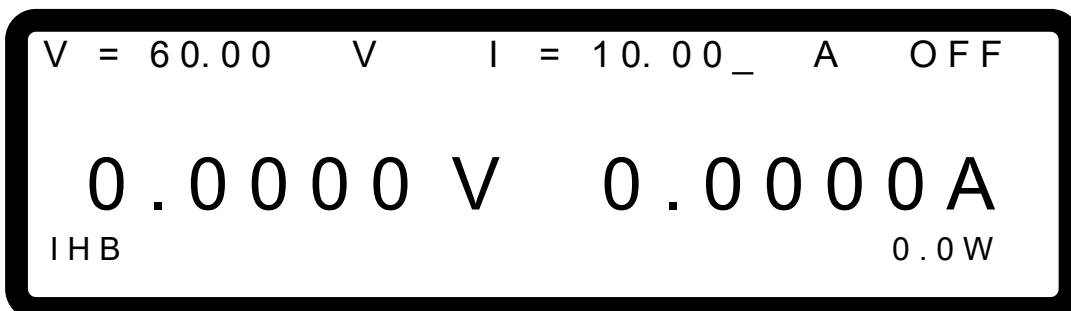

Figure 3-71
3. When protection occurs to REMOTE INHIBIT the main page will appear the protection message as Figure 3-71 shows.